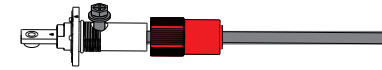

Figure 4.2-5
**Step4:** Locking screw, as shown in Figure 4.2-5.